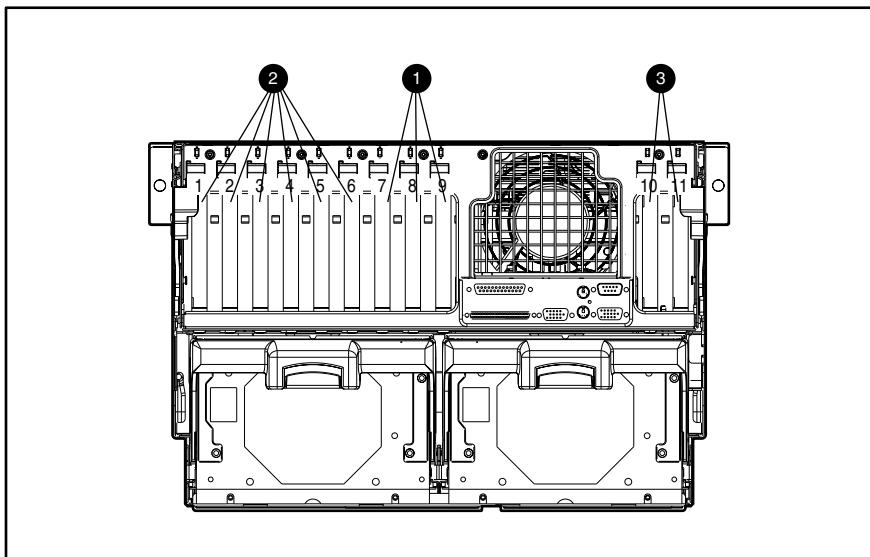
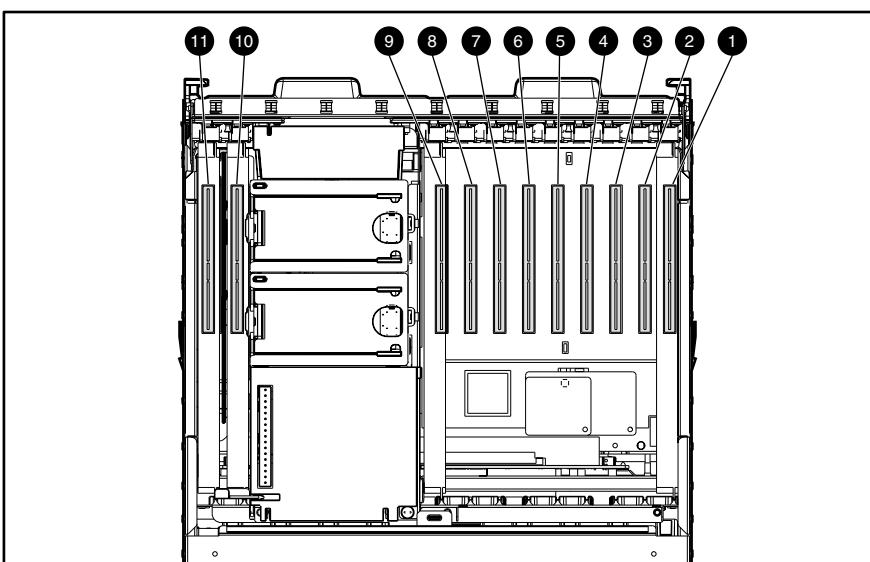

Figure 2-35. Diagram of I/O slot connections from the rear of the server
Figure 2-36. Bus distribution of PCI Hot Plug slots
The I/O expansion slots are located on the I/O board in the I/O module. The I/O board in the Compaq ProLiant DL760 server has 11 slots divided into 3 buses. The Primary bus ① (slots 7 through 9) is keyed for 64-bit 5-V PCI boards or 64-bit PCI universal boards. The Secondary bus ② (slots 1 through 6) and the Tertiary bus ③ (slots 10 through 11) are keyed for 64-bit 3.3-V PCI/PCI-X boards or 64-bit universal PCI/PCI-X boards. The PCI/PCI-X expansion slots associated with each of the three buses and the supported speeds are identified in Figure 2-35, Figure 2-36, and Table 2-7. Bus balancing is not required...